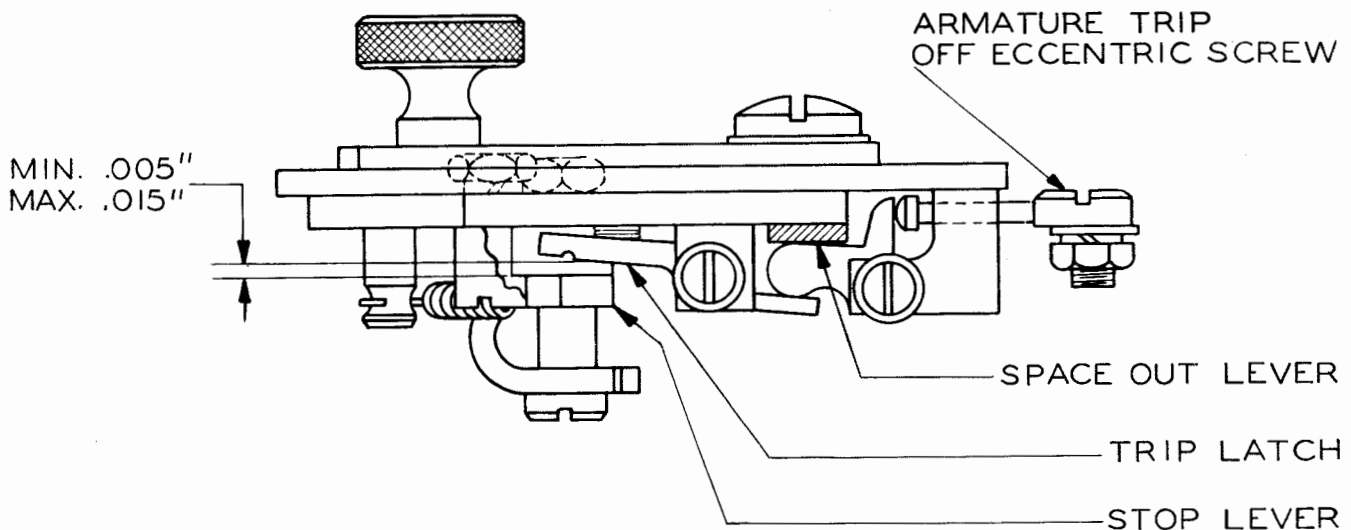

Figure 11
2.28 The Space-out Lever should not bind and should hold the triplatch so that it clears the stoplever as indicated in Figure 11 when the space-out lever is in its down position.